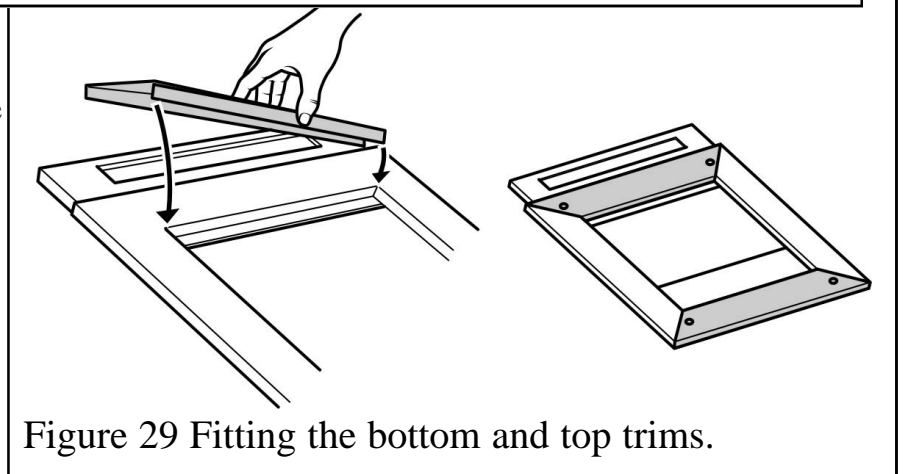

Figure 29 Fitting the bottom and top trims.
6. Locate the bottom and top trims as in figure 29.